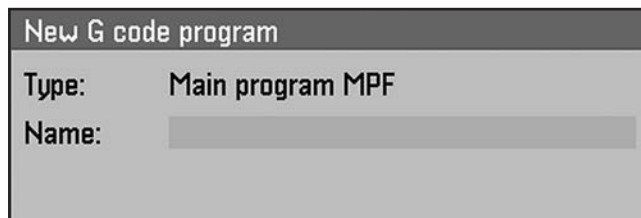

Figure 118. PPU filename window.
5. Press NEW FILE soft key. A window will appear for entering part program filename (see **Figure 118**).